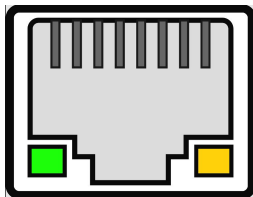

Fig. 16
2. Connect the cable to the ethernet ports on both devices(see Fig. 16).